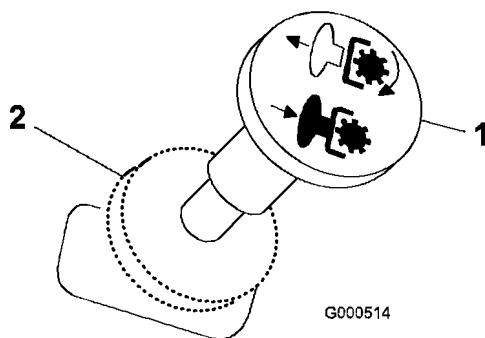

Figure 10
3. Move the PTO (power take off) switch to the Off position (Figure 10).
- Push the PTO to the off position (Figure 10).